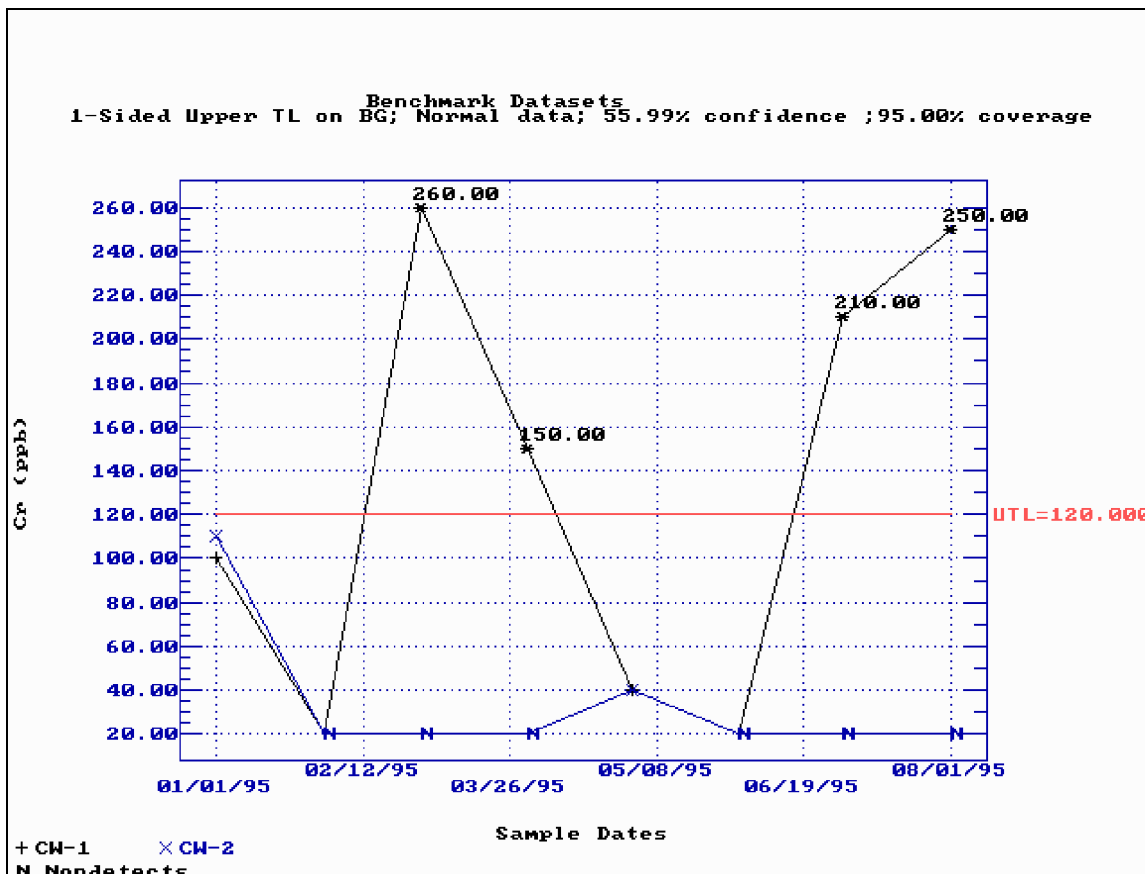

Figure 5-66. One-Sided Upper Tolerance Interval (UTL) superimposed on a time series plot.
10. Use the **Reports | Display** option to view a graphical representation of the Non-Parametric Tolerance Interval results (Figure 5-66). Individual observations that fall outside of the Tolerance Interval Limits are marked with an asterisk (*).